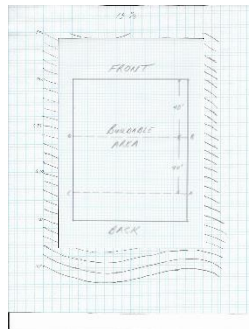

Fig 2
- 2) Impose a 100’ x 150’ rectangular lot (15000sf) onto the contours. Show maximum buildable area on the lot using currently required yard dimensions: front -30’; back - 20’; and 2 sides - 10’ each (actually 10’ and 15’, but two 10’ yards ensures a proper level of difficulty). Divide the buildable area into 3 segments: 40’, 40’ and 20’(Fig 2)